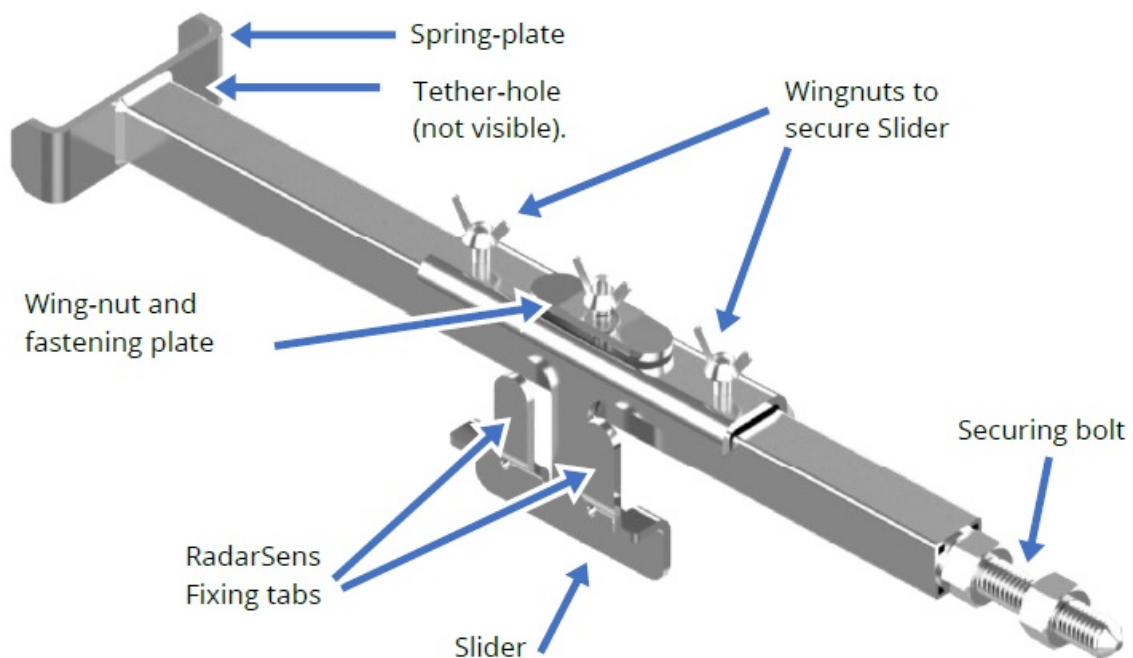

Figure 10. Brace-bar detail
- This bracket can be used to mount the RadarSens and certain loggers onto one bracket, as shown in Figure 8. Refer to Figure 10 for details. The brace-bar should span between the walls of the chamber at right-angles to the direction of the channel. The bracket can be secured to a suitable tether point within the chamber if required.